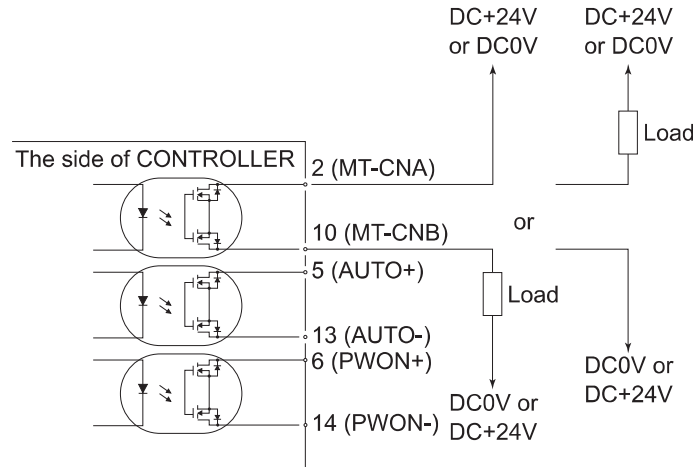

Fig. 30
- Applied Voltage (V) $\leq$ DC+30V
Use an external power source for output circuits. It is recommended to use a separate power supply Input / Output Connector B ④. Please refer to Fig. 30 for connections.